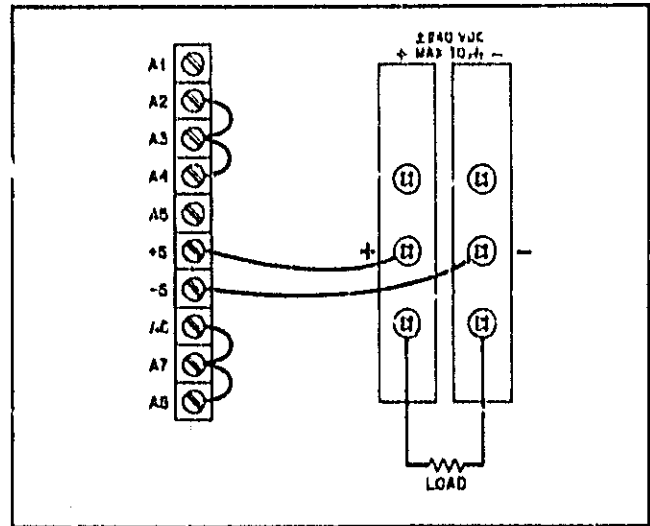
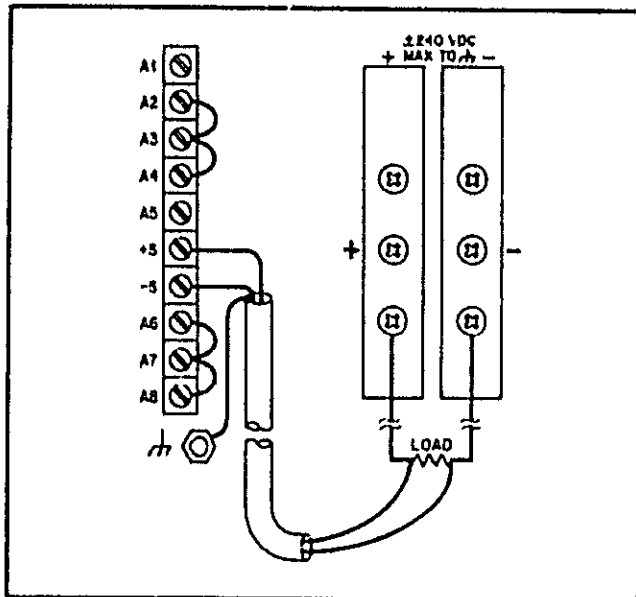

Figure 3-3. Normal Strapping
Figure 3-5. Remote Sensing
a. Ensure that rear terminal board straps are connected as shown in Figure 3-3, but do not connect load. Check that rear-panel label indicates unit is set for line voltage to be used. If it is not, refer to Section II, Line Voltage Option Conversion. If unit is equipped with System Option 002 ensure that option cable is disconnected from rear-panel option connector before proceeding.
b. Ensure that CURRENT control (8) is rotated clockwise at least two turns and OVP ADJUST potentiometer (10) (screwdriver adjust) is fully clockwise.
c. Press pushbutton LINE switch (1) on (pushbutton in) and observe that green LINE indicator turns on and that fan operates.
d. Turn VOLTAGE control (3) through output voltage range of unit as indicated on voltmeter (12). Green VOLTAGE light (4) should be lit across entire range indicating that supply is in constant voltage mode.
e. Check overvoltage circuit by turning OVP ADJUST control counterclockwise until output voltage drops. Output voltage should drop to  $\approx 0$  volts and red OVP (9) and OUTPUT UNREGULATED (6) indicators should light.
h. Turn supply back on and rotate CURRENT control (8) through output current range of unit as indicated on ammeter (11). Green CURRENT light (7) should be on across entire range indicating that supply is in constant current mode.
3-20 The power supply was shipped with the proper rear-panel strapping connections made for constant voltage/constant current operation with local sensing and local programming. This strapping pattern is illustrated in Figure 3-3. By means of the front-panel voltage and current controls, the operator selects either a constant voltage or a constant current output as described in Paragraphs 3-27 or 3-29. Whether the supply functions in the constant voltage or constant current mode depends on the settings of the VOLTAGE and CURRENT controls and on the value of the load resistance.
3-38 Because of the unavoidable voltage drop developed in the load leads, the normal strapping pattern shown in Figure 3-3 will not provide the best possible voltage regulation at the load. The remote sensing connections shown in Figure 3-5 improve the voltage regulation at the load by monitoring the voltage there instead of at the supply's output terminals. (The advantages of remote sensing apply only during constant voltage operation.) When using remote sensing, turn off the power supply before changing the rear-panel straps, sense leads, or load leads. The following paragraphs discuss some precautions that should be observed when making a remote sensing installation.